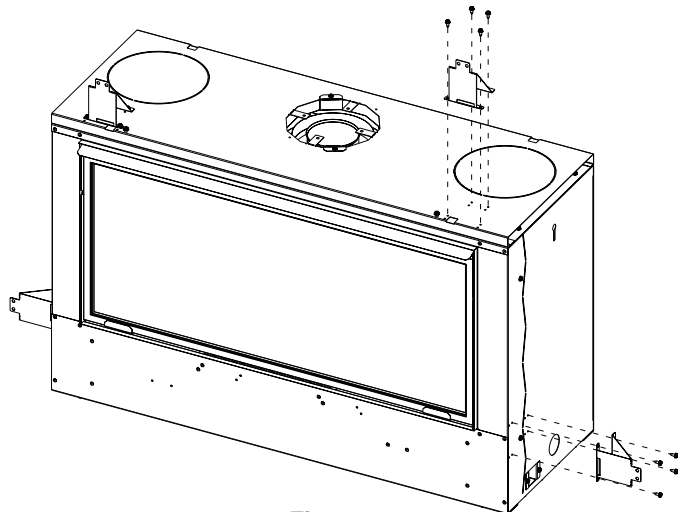

Figure 26
3. Retrieve the four framing brackets from hardware pack and hand bend them into a V shape as shown in **Figure 26**.
4. Attach framing brackets to the fireplace with included #10 X 1/2-inch screws. Brackets can be either flush to the fireplace or set back 1/2-inch, according to the desired finishing method. See **Figures 26, 31 and 32**.